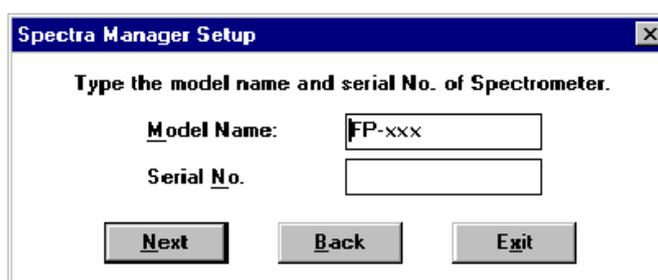

Fig. 12.12 Model name and serial number input screen
- (5) Click the <Continue> button. The screen shown in Fig. 12.12 will be displayed.